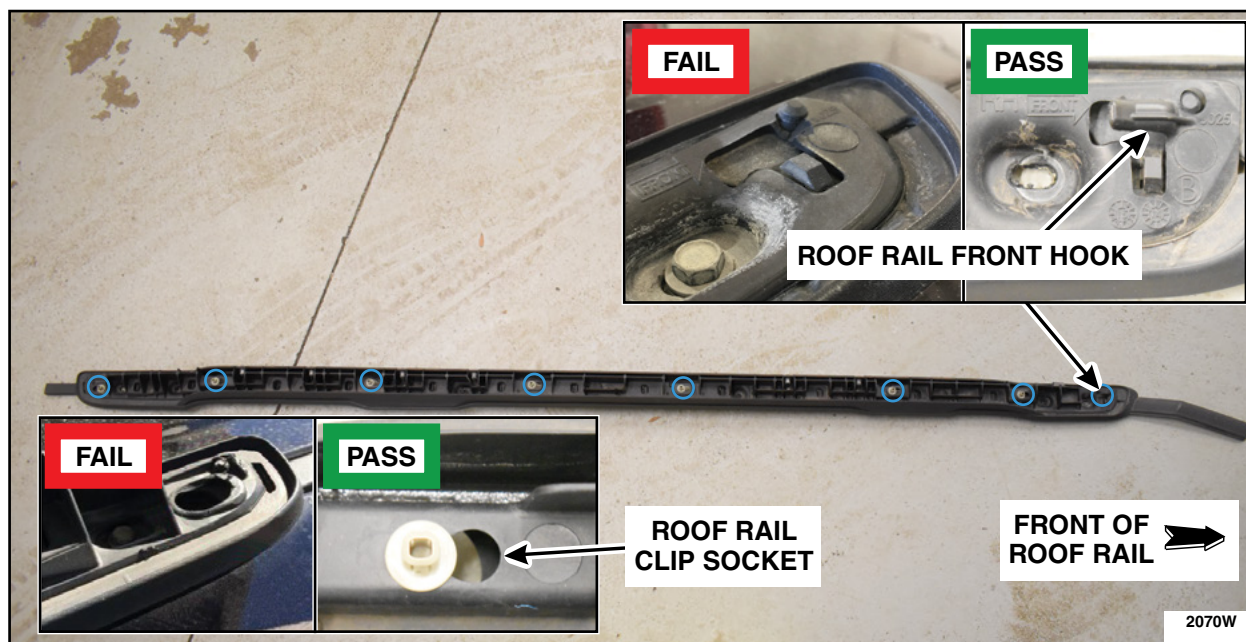

FIGURE 5
b. Inspect both the RH and LH roof rail base. See Figure 5.